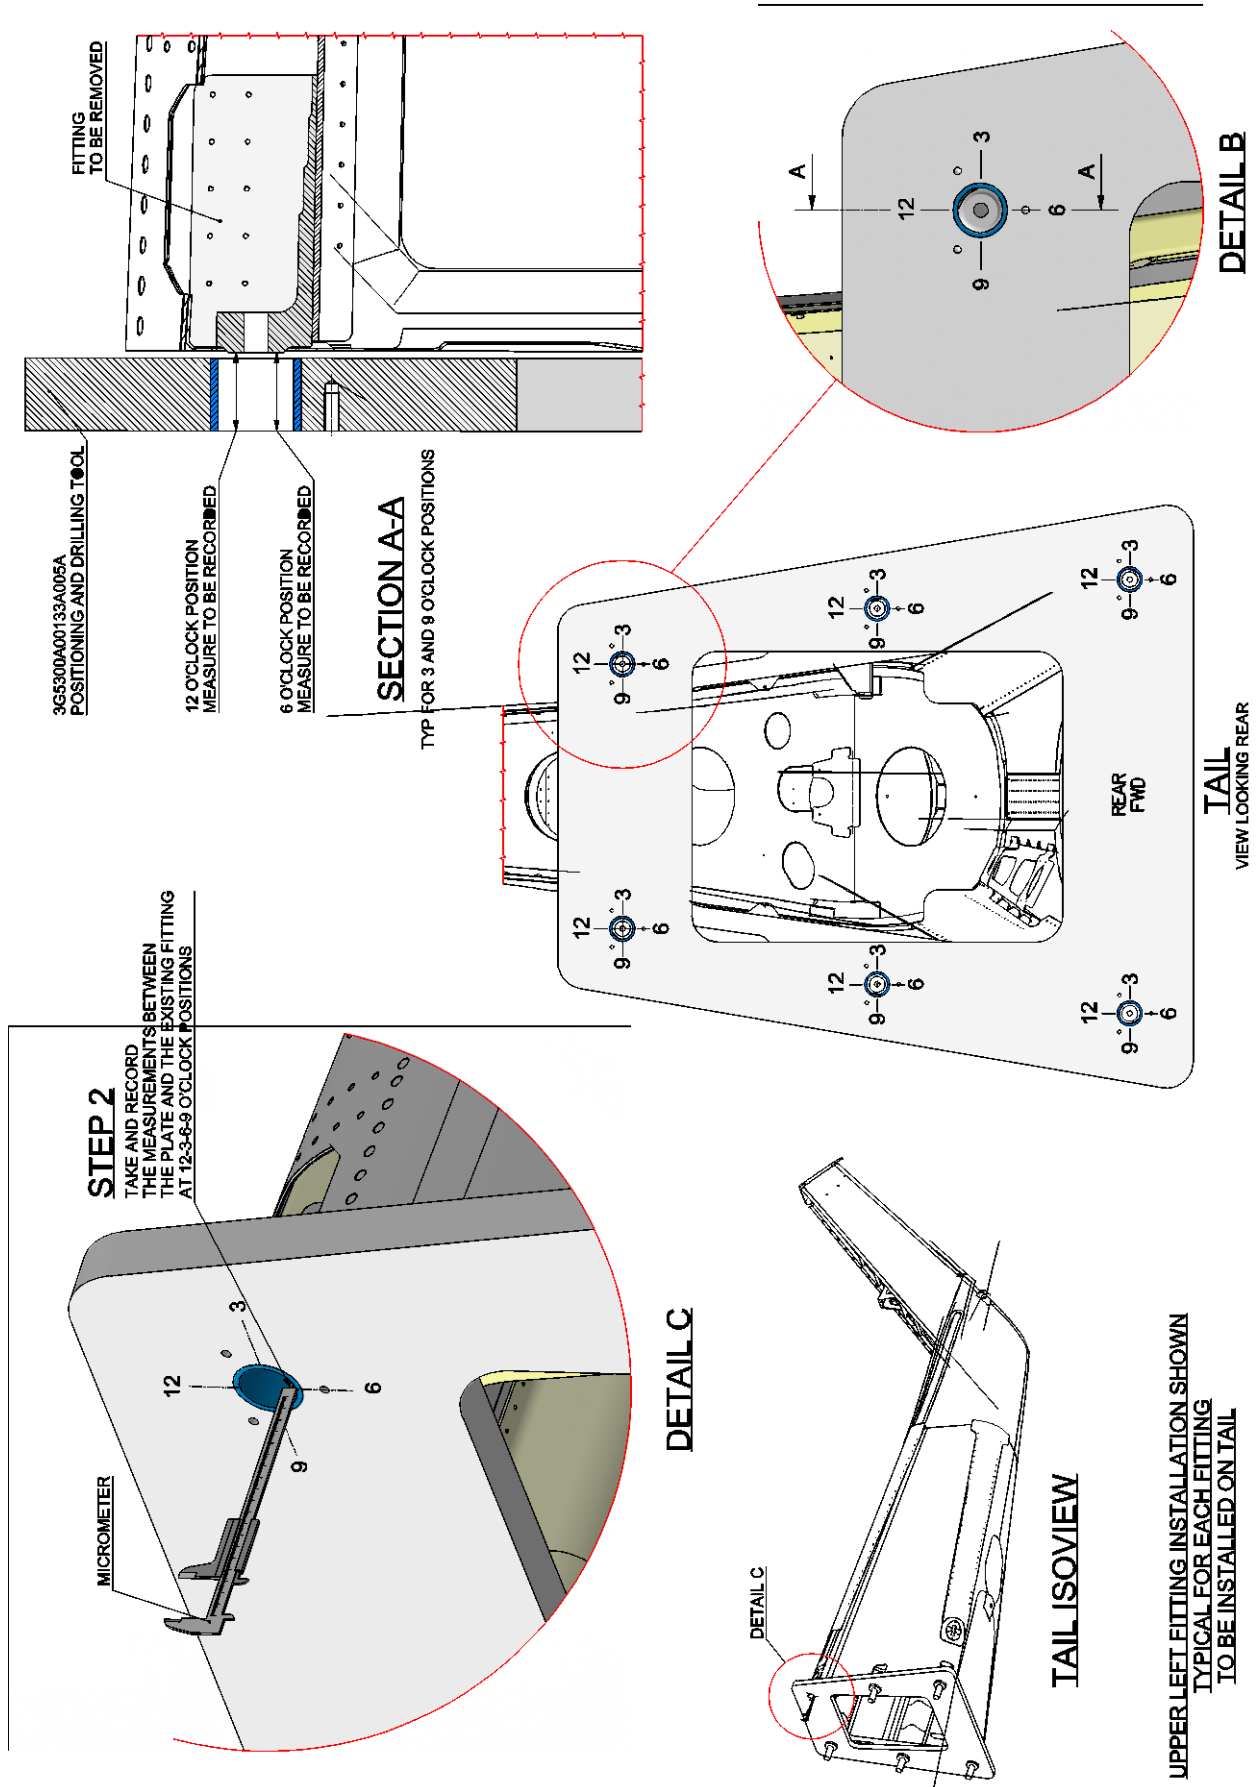
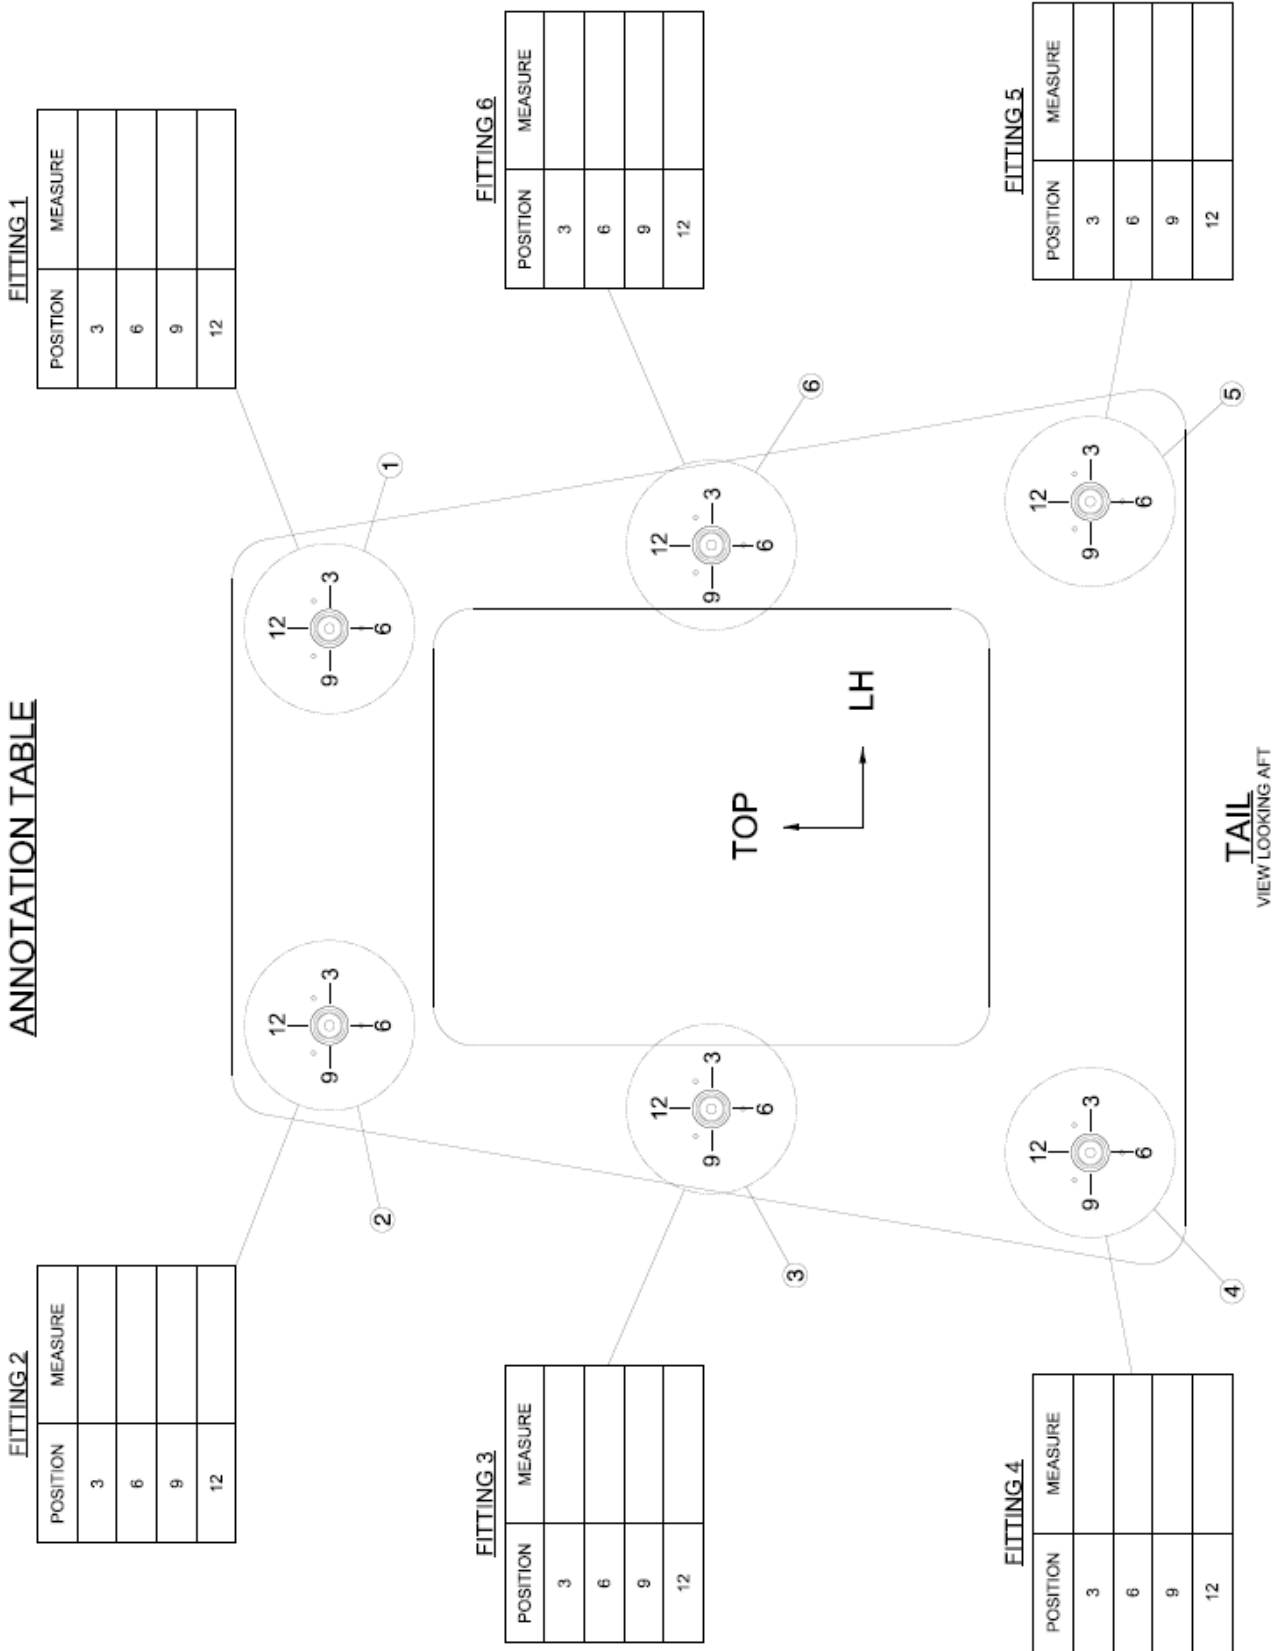

Figure A3
Figure A10
2. With reference to Figure A3, measure the distance between the plate and the fitting-boss in the n°4 indicated positions. Record the measures in the relevant table of Figure A10.